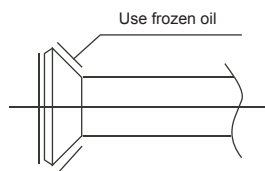

Fig.7-1
① Bend the tubing in proper way. Don't harm them.
② Daub the surfaces of the flare pipe and the joint nuts with frozen oil, and wrench it for 3~4 rounds with hands before fasten the flare nuts. (Refer to Fig.7-1)
③ Be sure to use two wrenches simultaneously when you connect or disconnect the pipes.